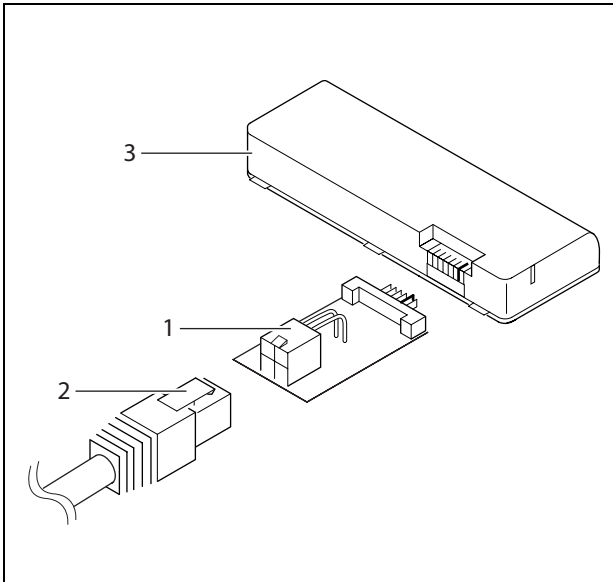

figure 3.1: Battery charging connections
- 1 Connect the battery charging adaptor (see figure 3.1, no. 1) to the power supply (no. 2), and then insert the battery charging adaptor into the battery (no. 3).